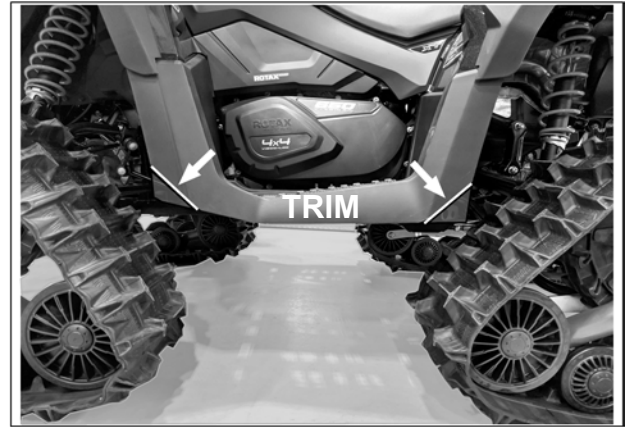

Fig. 25
1. To prevent any possible contact between the undercarriages and the footguards, the outer corners of the footguards have to be modified. The modifications will help avoid damages to the vehicle and the track systems. See Fig. 25